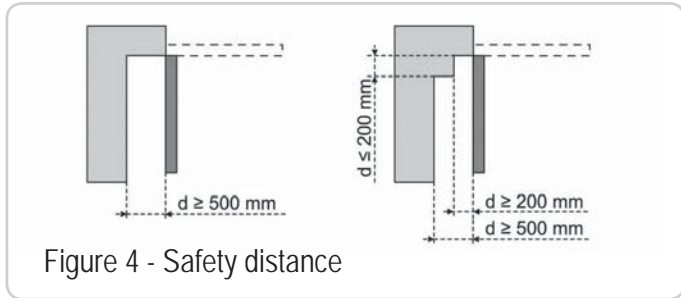

Figure 4 - Safety distance
<p>ZONE 3* Risk of cutting or crushing with any adjoining fixed parts during opening</p>	<p>Eliminate all sticking points and all sharp edges from the surface of the door Eliminate any gap ≥ 8 mm or ≤ 25 mm Protection against crushing with an adjoining fixed part can be incorporated: - obstacle detection built into the motorisation. It must be imperatively checked that the obstacle detection complies with annex A of the standard EN 12 453. - via safety distances (see figure 4)</p>
3.1 Installation height - Fig. 4